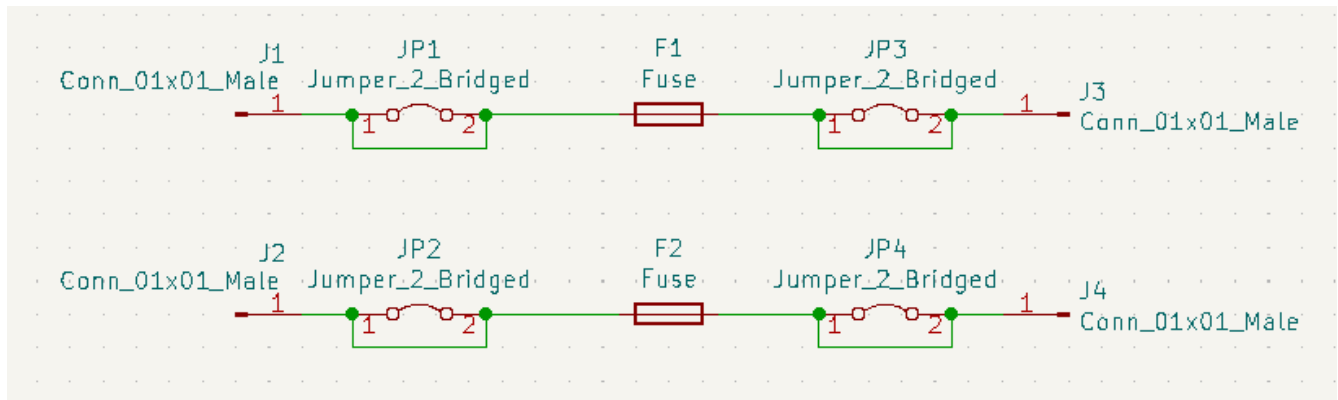

Figure 1: Fuse Block PCB Schematic
2. The board has been designed to switch the locations of the + and – (red and black) Powerpoles. While Figure 1 shows the correct schematic for the board, it does not show that, if J1 is red, and at the top of the board, J3 will need to be at the bottom of the board to maintain the ARES/RACES standard. This “polarity switch” is mainly accomplished by running circuit traces both on top and on bottom of the board.